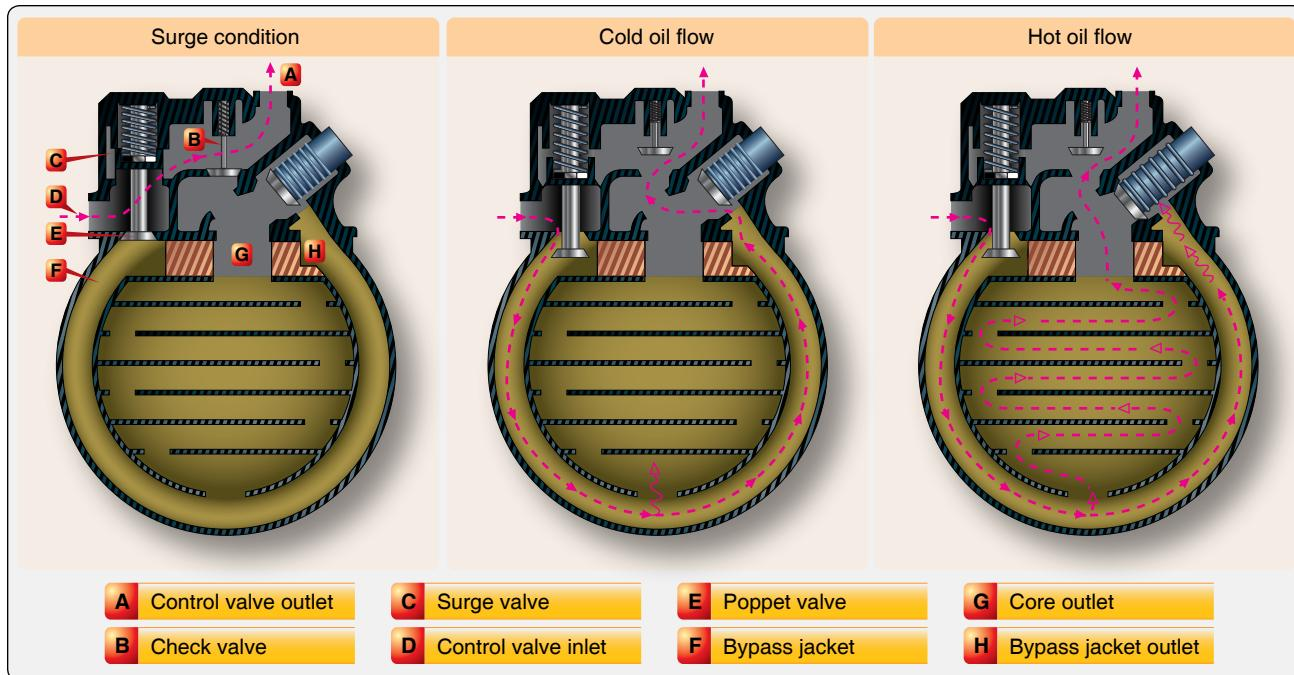

Figure 6-12. Control valve with surge protection.
As discussed previously, the viscosity of the oil varies with its temperature. Since the viscosity affects its lubricating properties, the temperature at which the oil enters an engine must be held within close limits. Generally, the oil leaving an engine must be cooled before it is recirculated. Obviously, the amount of cooling must be controlled if the oil is to return to the engine at the correct temperature. The oil cooler flow control valve determines which of the two possible paths the oil takes through the oil cooler. [Figure 6-12]
When oil in the system is congealed, the scavenger pump may build up a very high pressure in the oil return line. To prevent this high pressure from bursting the oil cooler or blowing off the hose connections, some aircraft have surge protection valves in the engine lubrication systems. One type of surge valve is incorporated in the oil cooler flow control valve; another type is a separate unit in the oil return line. [Figure 6-12]
The surge protection valve incorporated in a flow control valve is the more common type. Although this flow control valve differs from the one just described, it is essentially the same except for the surge protection feature. The high-pressure operation condition is shown in *Figure 6-12*, in which the high oil pressure at the control valve inlet has forced the surge valve (C) upward. Note how this movement has opened the surge valve and, at the same time, seated the poppet valve (E). The closed poppet valve prevents oil